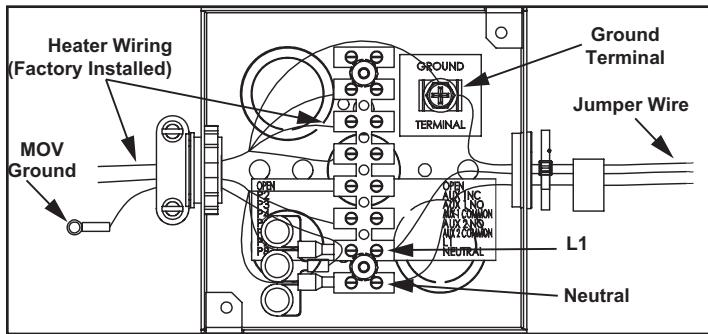

Figure 53. Power Supply Connections
The 120 VAC hot wire from the power supply must connect to the black jumper wire or the "L1" terminal block location in the junction box and the 120 VAC neutral wire must connect to the white jumper wire or the "Neutral" terminal block location in the junction box for correct polarity. See *Figure 53*.
3. Connect the 120 VAC hot wire from the power supply to the black jumper wire or the terminal block location marked "L1" inside of the junction box located on top of the water heater. If the black jumper wire is used, make the connection inside of the junction box with a properly sized wire nut and wrap electrical tape around the wire nut and wire end. See junction box *Figure 53* and wiring diagram *Figure 65* (page 76).
4. Connect the 120VAC neutral wire from the power supply to the white jumper wire or the terminal block location marked "Neutral" inside of the junction box located on top of the water heater. If the white jumper wire is used, make the connection inside of the junction box with a properly sized wire nut and wrap electrical tape around the wire nut and wire end. See junction box *Figure 53* and wiring diagram *Figure 65* (page 76).
5. Connect the ground wire from the power supply to the green jumper wire or the ground terminal location inside of the junction box located on top of the water heater. If the green jumper wire is used, make the connection inside of the junction box with a properly sized wire nut and wrap electrical tape around the wire nut and wire end. See junction box *Figure 53* and wiring diagram *Figure 65* (page 76).